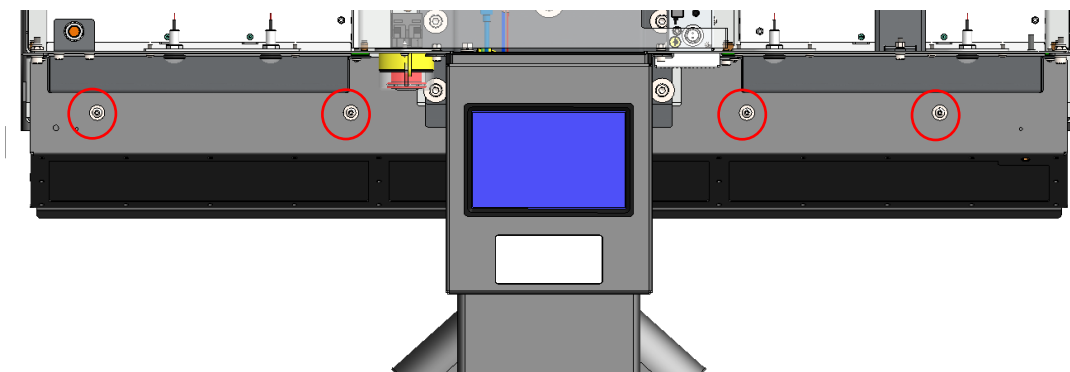

Figure 7.2. Location of screws on the front side of the station
2. Remove screws 1-4 (Fig. 7.2). Remove the filter case.